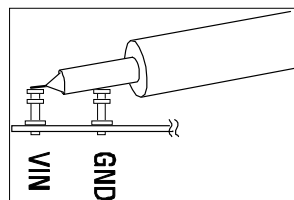

Figure 2. Measuring Input or Output Ripple
NOTE: When measuring the input or output voltage ripple, care must be taken to avoid a long ground lead on the oscilloscope probe. Measure the input or output voltage ripple by touching the probe tip directly across the Vin or Vout and GND terminals. See the proper scope probe technique in figure 2.
5. Set the load current of both outputs to 3A and the input voltage to 15V, and then measure each output ripple voltage (refer to figure 2 for proper measurement technique); they should each measure less than 30 mVAC. Also, observe the voltage waveform at either switch node (pins 23 & 24 for reg.1 and 13 & 14 for reg.2) of each regulator. The switching frequencies should be between 800 kHz and 1.2 MHz ( $T = 1.25 \mu\text{s}$  and  $0.833 \mu\text{s}$ ). To realize 2 MHz operation, change the shunt position on header JP14. In all cases, both switch node waveforms should be rectangular in shape, and  $180^\circ$  out-of-phase with each other. Change the shunt position on header JP11 to set the switch waveforms in phase with respect to each other. To operate the ckt.s in Burst Mode™, change the shunt in header JP8 to the Burst Mode™ position. When finished, insert shunts XJP1 and XJP2 to the OFF position(s) and disconnect the power.